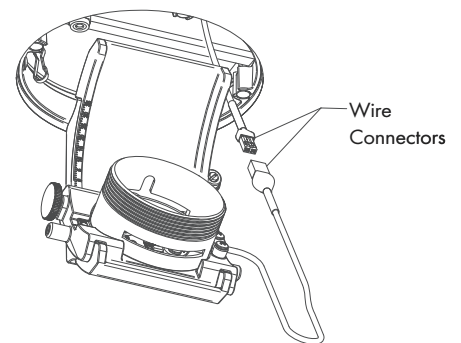

FIG 4.3 Remove/Replace J5 Lamp Module
Use Horizontal Lock Screw to secure the horizontal adjustment - **FIG 4.3**.
STEP 2 Install J5 Lamp Module through trim aperture and connect wire connectors making sure not to trap wiring underneath - **FIG 4.3**.